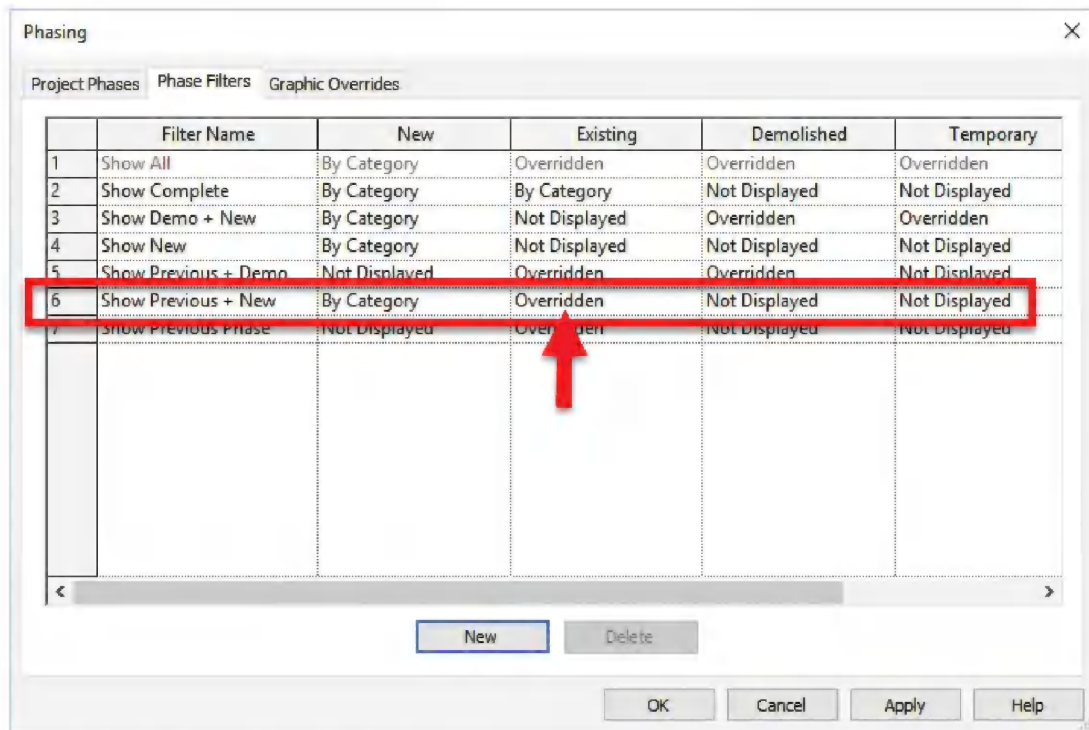

FIGURE 16-3.4 Phase Filters tab; Phasing dialog
11. Select the **Phase Filter** tab (Figure 16-3.4).